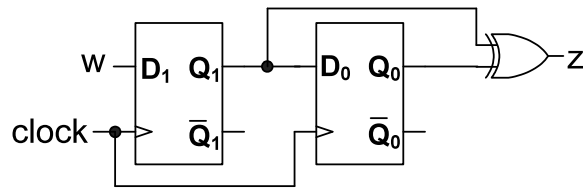

Figure 15 - Circuit for question 20.
20. Consider the sequential circuit shown in Figure 15. Consider the following state assignment: **S0** stands for $Q_1Q_0=00$, **S1** stands for $Q_1Q_0=01$, **S2** stands for $Q_1Q_0=10$ and **S3** stands for $Q_1Q_0=11$. The state transition diagram for the circuit from Figure 15 is shown in: